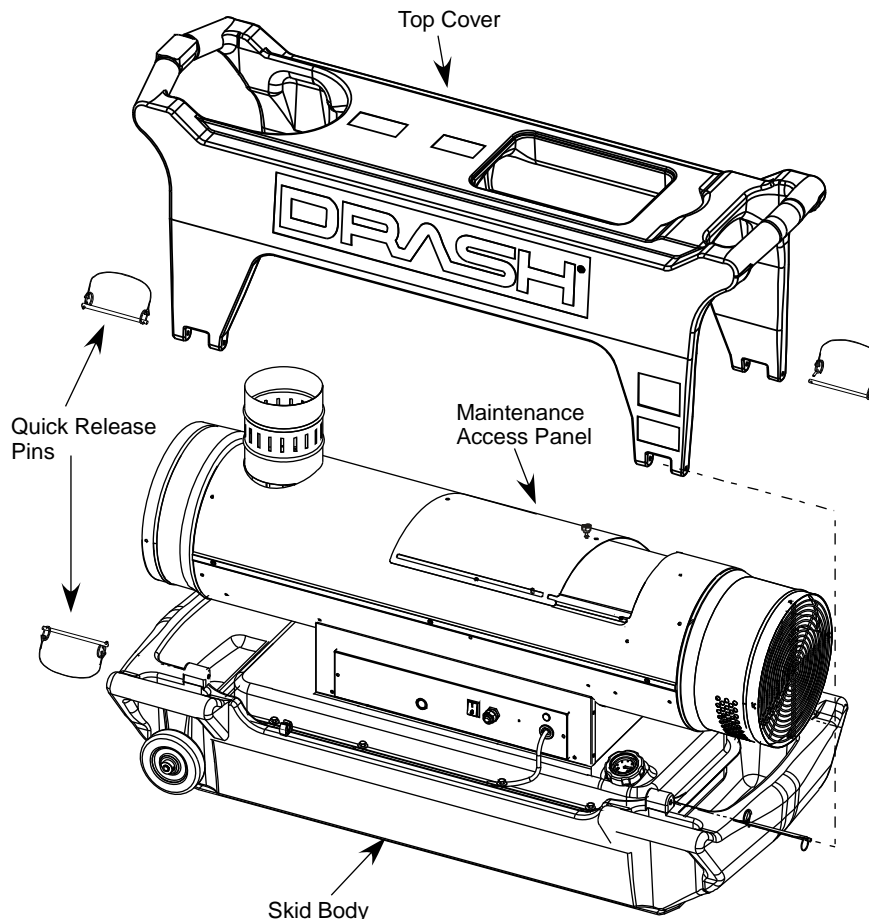
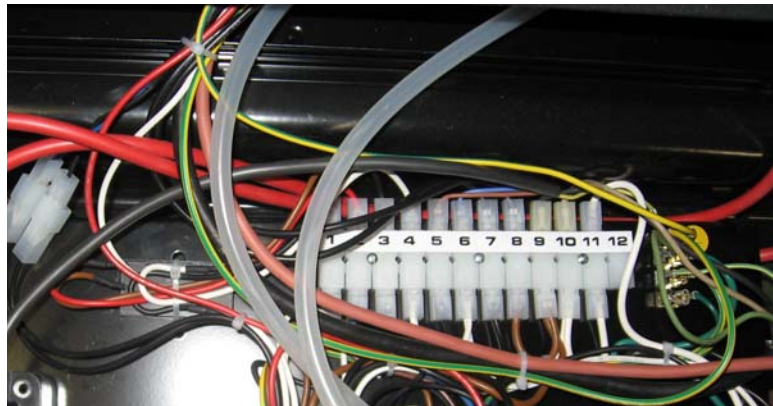
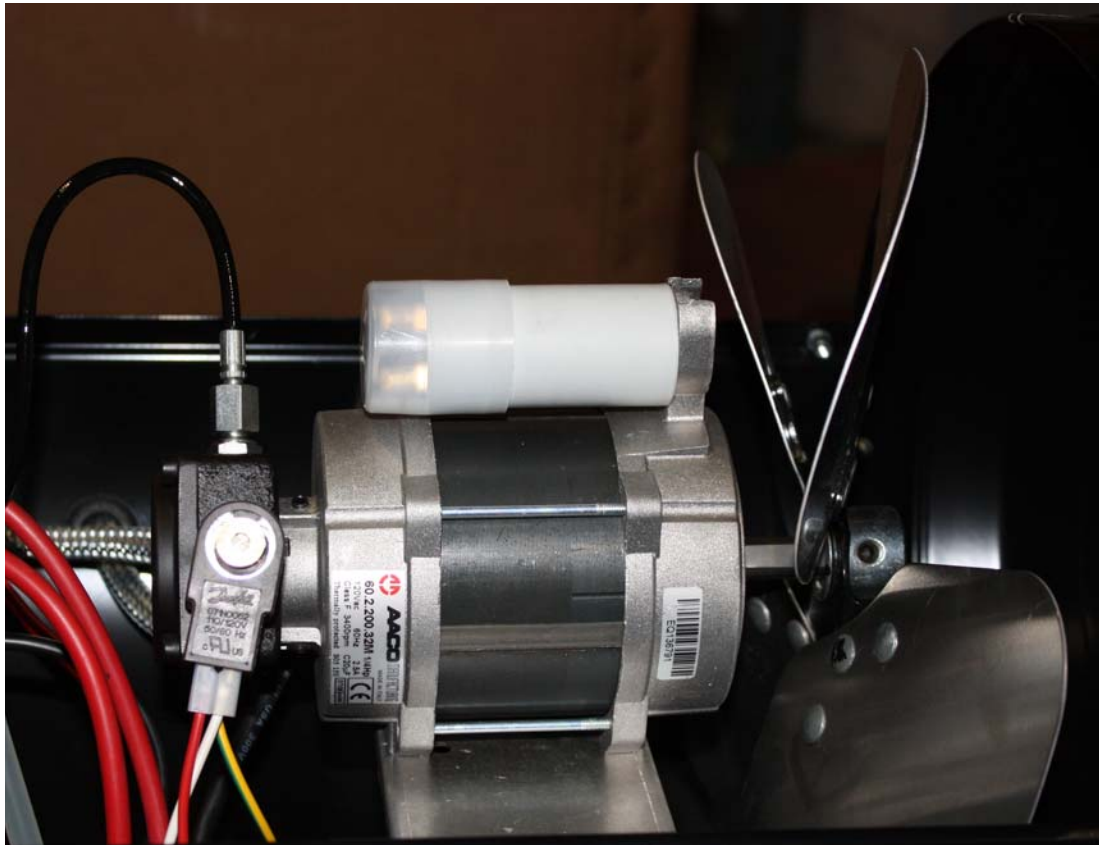
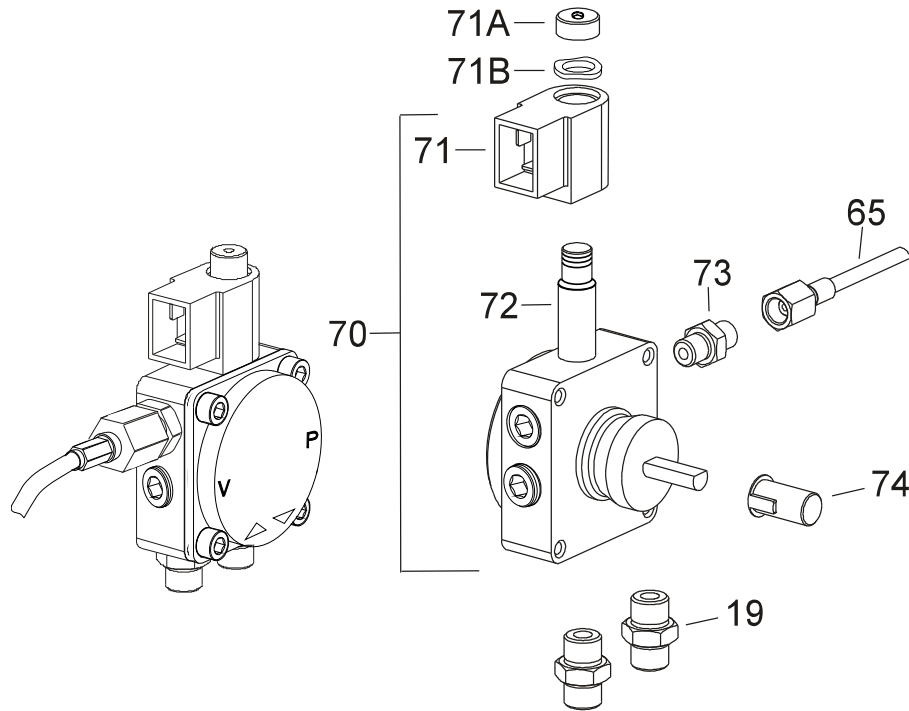

Figure 5-1 – General Access to Heater
Figure 5-2 – Control Panel Terminal Board
Figure 5-4 - Electric Motor Assembly
Figure 5-6 – Fuel Pump
To gain internal access to the motor assembly, combustion chambers, and the burner head, remove the four pins that secure the top cover to the skid body as shown in Figure 5-1. Remove top cover. Loosen and slide the maintenance access panel rearward.
2. Remove the four quick release pins as shown in Figure 5-1; remove top exterior cover.
3. Using an 8mm nut driver, remove the upper heat shield (5) by removing six screws (79) and two sheet metal screws (78). Remove heat shield and set aside.
4. Using a 4mm Allen wrench, loosen set screw (92) and remove fan blade (15).
5. Disconnect the three wires from the fuel solenoid (71).
6. Using a 15mm open end wrench, loosen and disconnect at the fuel pump, the fuel supply line (18) to the fuel filter and fuel return line (22B) to the fuel tank.
7. Using a 13mm open end wrench, loosen and disconnect the fuel feed hose (65) at the fuel pump to the burner head (61).
8. Using a 2.5mm Allen wrench, loosen (**DO NOT REMOVE**) three set screws on the fuel pump collar to the back of the electric motor; remove fuel pump (70) from electric motor (10).
9. Using a Phillips screwdriver, loosen and remove two control panel mounting screws (81); pull out the control panel assembly (29) from the base (30) to expose the terminal boards.
10. Disconnect and remove three wires; black wire (#9), tan wire (#10) from the terminal board (47), the yellow and green stripe ground wire from the small terminal board (46) as shown in Figure 5-2.
6. Position fuel pump (70) behind electric motor (10) aligning tabs on the plastic coupler to the slots inside the electric motor as shown in Figure 5-6 and Figure 5-7. Push in until fuel pump (70) is seated against the electric motor (10).
7. Using a 2.5mm Allen wrench, tighten the three set screws on the fuel pump collar to the electric motor (10).
8. Using a 13mm open end wrench, connect and tighten the fuel feed hose (65) from the burner head (61) to fuel pump (70).
9. Using a 15mm open end wrench, at the fuel pump, connect and tighten the fuel supply line (18) from the fuel filter and fuel return line (22B) to the fuel tank at the fuel pump (70).
10. Install fan blade (15) and ensure it is flush with the forward end of the shaft.
13. Connect the electric motor wire harness' three wires; black wire (#9), tan wire (#10) on the terminal board (47), the yellow and green stripe ground wire on the small terminal board (46).
14. Reinstall the control panel assembly (29). Using a 8mm nut driver, install two screws (81) and tighten.
15. Reinstall upper heat shield (5).
16. Using an 8mm nut driver install and tighten six screws (79) and two sheet metal screws (78).
17. Reinstall top exterior cover and install the four quick release pins (see Figure 5-1).
2. Remove four quick release pins and remove top cover (see Figure 5-1).
3. Using a 8mm nut driver, remove the upper heat shield (5) by removing six screws (79) and two sheet metal screws (78); remove heat shield and set aside
5. Using a 4mm Allen wrench, loosen and remove fuel solenoid cap nut (71A) and wave washer (71B) as shown in Figure 5-6.
6. Using a 13mm open end wrench, loosen and disconnect at the fuel pump (70) the fuel feed hose (65).
7. Using a 15mm open end wrench, loosen and disconnect at the fuel pump (70) the fuel supply line (18) and fuel return line (22B).
8. Using a 2.5mm Allen wrench, loosen (**DO NOT REMOVE**) three set screws on the fuel pump collar (see Figure 5-4); remove fuel pump from electric motor assembly.
1. Using a 15mm open end wrench, attach at the fuel pump (70) the fuel supply line (18) and fuel return line (22B).
2. Using a 13mm open end wrench, connect and tighten the fuel feed hose (65) from the burner head (61) to fuel pump (70).
3. Using a 4mm Allen wrench, attach fuel solenoid (71) wave washer (71B) and cap nut (71A) as shown in Figure 5-6.
4. Positioned fuel pump (70) behind electric motor (10) aligning tabs on the plastic coupler to the slots inside the electric motor as shown in Figure 5-6 and Figure 5-7. Push in until fuel pump (70) is seated against the electric motor (10).